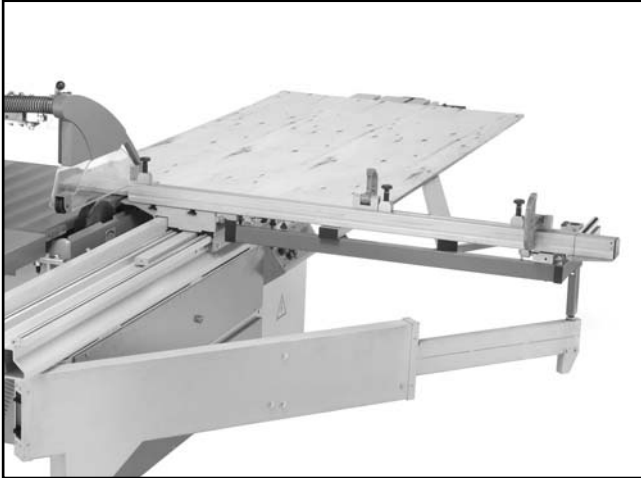

Figure 65. Rip cutting setup with the sliding table.
The Model G0501 has the capability of rip cutting full size panels (**Figure 65**). The sliding table removes the burden of sliding a large and heavy panel over a stationary table surface.
6. Load the workpiece onto the table saw. The set up should look similar to **Figure 65**.